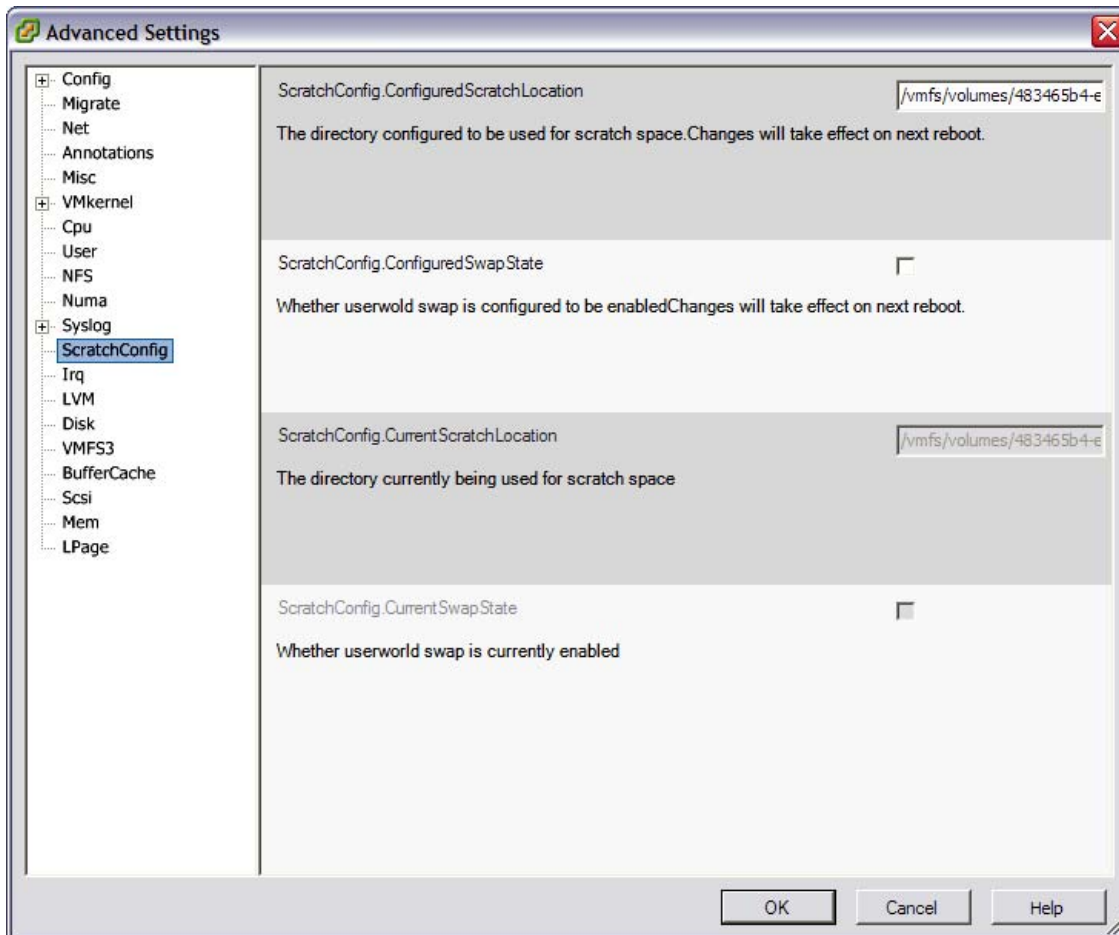

Figure 5-25 Example of ScratchConfig settings to enable Swap space for ESXi host
- c. Choose **ScratchConfig**. See Figure 5-25 on page 278.